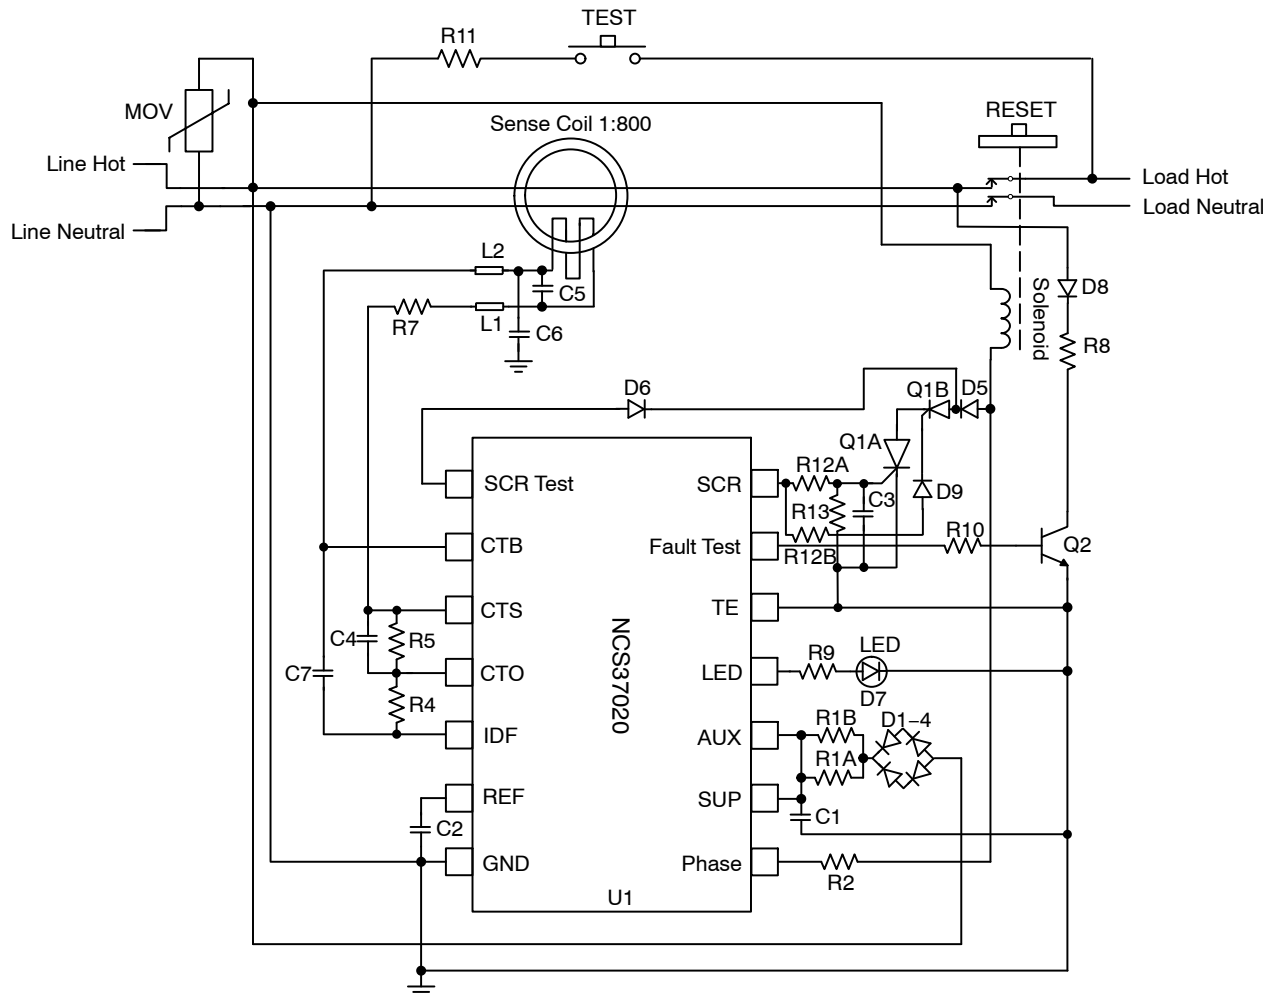
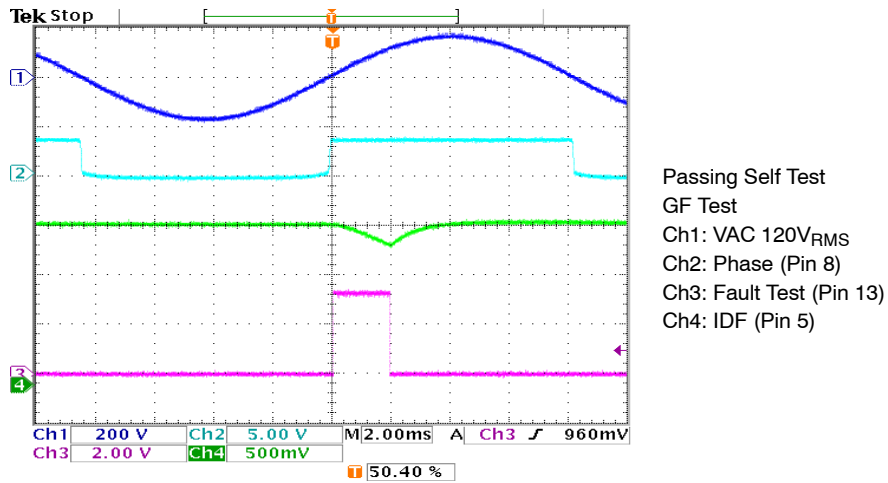
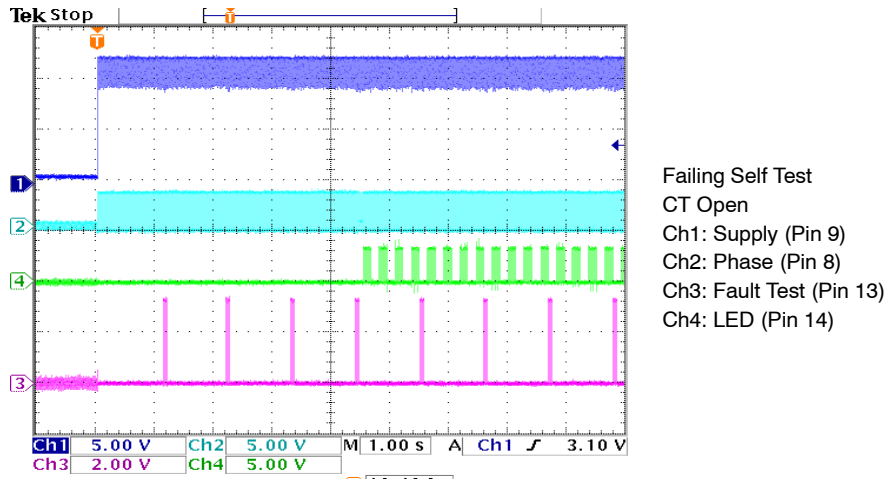
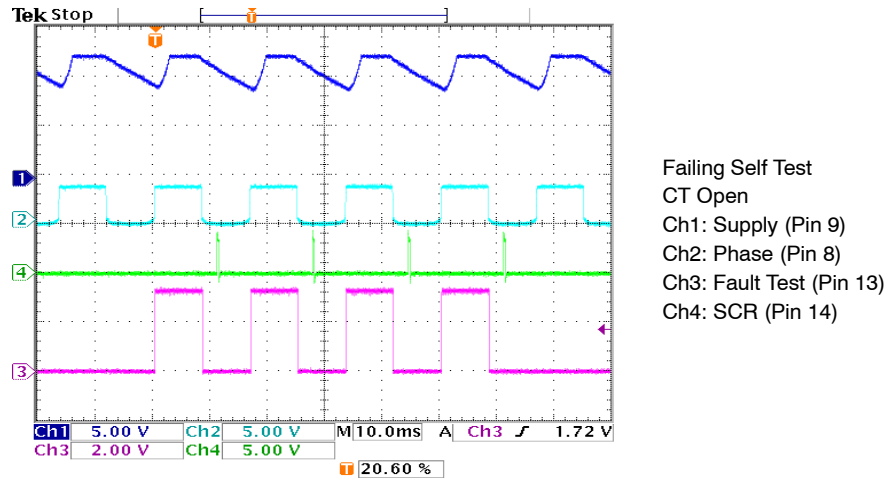

Figure 2. ALCI Application Diagram*
Figure 4. Passing Self Test – GF
Figure 6. Failing Self Test – CT Open
Figure 7. Failing Self Test – CT Open
Table 4. OPERATING RANGES (Unless otherwise noted, I_{SUP} = 3 mA, Phase input = 60 Hz, Refer to Figure 2)
Functional Description (refer to application circuit, Figure 2)
The internal shunt regulator clamps the SUP pin voltage at 12 volts. This provides the bias voltage for the analog and digital internal circuitry via two 3.3 V linear regulators. The NCS37020 controller can be biased full wave or half wave. Figure 2 shows a half wave bias application. Half wave bias allows for lower wattage bias resistors (R1A and R1B) and less redundant bias diodes. The D1–4 diodes are biased so that only during the positive half cycle the capacitor C1 will be charged to 12 volts. During the negative half cycle, C1 will supply the bias current for the NCS37020. To minimize the NCS37020 bias current during the negative half cycle, the SCR and LED outputs will only be enabled during the positive half cycle. The D1–4 diodes and R1A–R1B resistors include redundant components to pass the UL943B standard.
The first self-test (ST) cycle will occur at one second and thereafter every 12 minutes. During the ST cycle, the Fault Test pin will be enabled during the positive half cycle and the CT current (set at 12 mA, R8) will be verified. During the next negative half cycle, the SCR’s anode voltage will be pre-biased by the SCR Test pin to 3.3 volts. The SCR will then be enabled and the SCR’s anode voltage will be monitored by the SCR Test pin. If the anode voltage goes below 2.1 volts, the SCR will be disabled after a 400 μs verification check and the ST logic will register a passing ST cycle. Figure 2 shows two SCRs in series. A redundant SCR is required during the SCR anode to cathode short test to prevent the solenoid from burn out damage. The SCR self-test cycle will fail if either SCR Q1A or Q1B are open. If either Q1A or Q1B are shorted (anode to cathode) the ST cycle will pass, however, the GF function will also function correctly. The next ST cycle will occur in 12 minutes. Note that when the SCR is enabled, the blocking diode D5 will prevent the solenoid from being energized and opening the load contacts. If either the GF (ground fault) or SCR self-test cycles fail, these self-test cycles will be repeated for up to three more consecutive cycles. If any consecutive GF and SCR tests pass, the ST logic will register a passing self-test cycle. If all four ST consecutive cycles fail, a ST cycle will be repeated at 2, 3 and 4 seconds for a total of 16 self-test cycles. If all 16 ST cycles fail, a ST EOL fault will occur. The SCR will be enabled for four consecutive positive half cycles, then the LED will blink at 4 Hz. The LED will only be biased during the positive AC half wave cycle. The SCR will be enabled for one positive half cycle every 4.5 seconds. A self-test cycle will occur every second. If a self-test cycle passes, the ST EOL logic will be reset (power on reset state). If a ground fault is detected during a ST EOL state, the EOL logic will be reset. This allows for resetting the ST EOL state by pressing the manual test button when the load contacts are closed.
Figure 4 shows a passing self-test ground fault test. This test checks for the CT and bias circuitry. Channel 1 shows the VAC 120 V_{RMS} , 60 Hz Line Voltage. Channel 2 shows the positive and negative phase half wave cycles. Channel 3 shows the Fault Test signal and channel 4 shows the IDF signal (CTO output). The self-test cycle starts in the positive half wave cycle. The Fault Test pin goes high and Q2 (Figure 2) is enabled. Enabling Q2 generates a GF signal via R8. The IDF signal is the CTO amplifier output which is a GF current to voltage signal per the equation on the previous page. When a 5 to 15 mA GF signal is detected, a “passing GF test” is recorded and the Fault Test signal is disabled.
After a passing self-test cycle per Figures 4 and 5, the next ST cycle will occur in 720 seconds.
Figure 6 shows a failing ST cycle for an open CT. Channel 1 shows the NCS37020 supply voltage. Channel 2 shows the phase pin. Channel 3 shows the Fault Test signal and channel 4 shows the LED (End of Life) signal. The first four consecutive ST cycles occur at about 1.1 seconds, then at 2.2, 3.3 and 4.4 seconds. After the 16th consecutive cycle failure, the SCR is enabled for four positive half cycles and then the LED is enabled.
Figure 7 also shows a failing ST cycle for an open CT. It is a zoom figure for the first four consecutive ST cycles. It shows the same waveforms as Figure 6 but channel 4 shows the SCR pin. Comparing Figure 7 with Figure 4, it can be observed that the Fault Test pin is enabled for the complete positive half wave cycle because no GF signal is detected by the NCS37020.